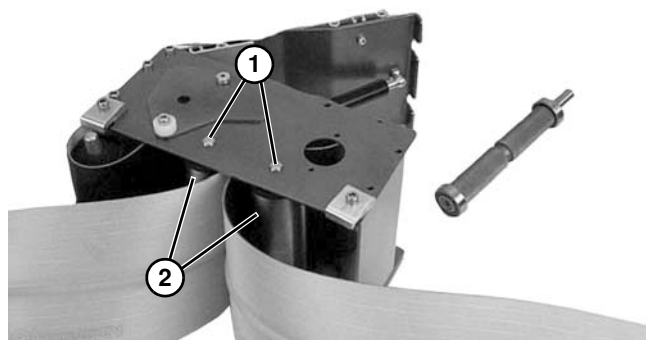

Figure 70
- b. For 127 mm or wider conveyor, depress both sides of each spring-loaded shaft (**Figure 70, item 1**). Remove pulleys (**Figure 70, item 2**).